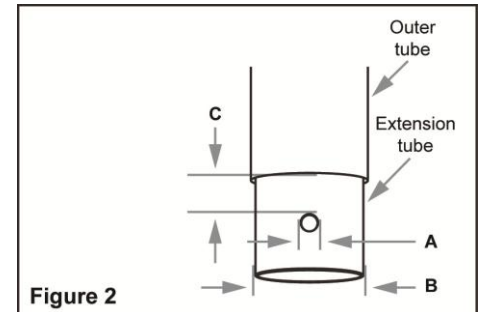

Figure 2
4. Check the diameter of the holes in the tongue jack's extension tube (Fig. 2, Dim. A) by inserting one of the bolts (item 5 in the Contents table) provided with your Brute Super Foot. *If the bolt is too large for the hole, or if there are no holes in the extension tube of the tongue jack, you will need to drill them. Refer to the Drilling Holes for the Brute Super Foot section on the next page for instructions.*
5. Measure the diameter of the tongue jack's extension tube (Fig. 2, Dim. B). If the diameter is 2", discard the Brute Super Foot reducing sleeve (item 4 in the Contents table), since it will not be needed. If the tube diameter is smaller than 2", the reducing sleeve will slide over the extension tube, and both will be inserted into the head of the Brute Super Foot in step 7. *The holes in the reducing sleeve are closer to the top end (as shown in the Contents table), and the sleeve should be installed with the top end up.*
6. **Always use the lower set of holes on the Brute Super Foot head with a manual jack.** For electric jacks, measure the distance from the bottom of the outer tube of the tongue jack to the top of the hole on the extension tube of the jack (Figure 2, Dim. C). This will determine whether you use the upper set of holes or the lower set of holes on the Brute Super Foot when you install it on the electric tongue jack.